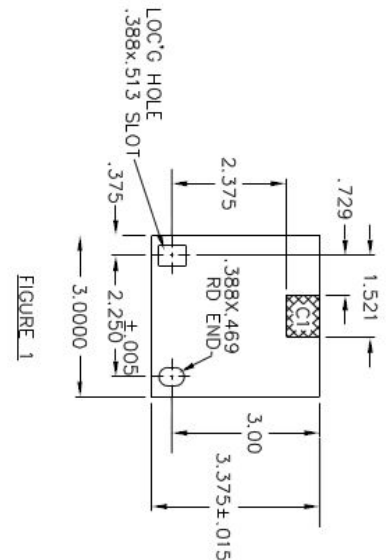

FIGURE 1
1. DETAIL PLATES ARE SAME AS VAC-CLAD (693CA36), EXCEPT C1 MATERIAL REMOVED VC-W FIGURE 1.